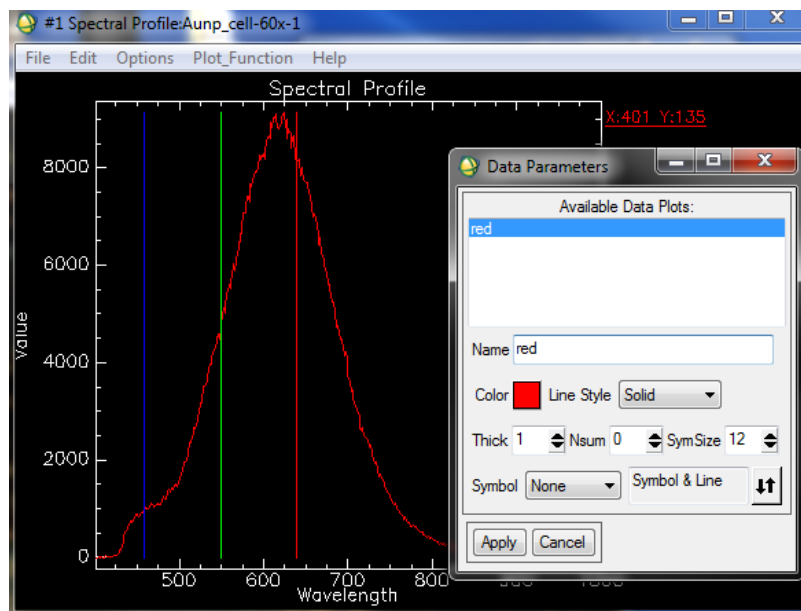

Figure 3.4a. Labeled Plot
- Click Apply and then close the edit window (Figure 3.4a).